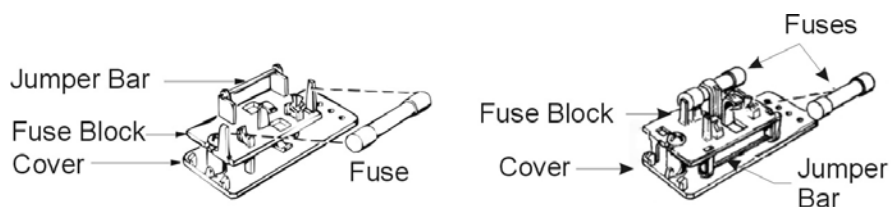

*Figure 6-3: Removing Fuse Block from Housing*
1. Place small screwdriver in notch, and pry cover off, as shown in Figure 6-3.
4. Reassemble Housing as shown in Figure 6-3.